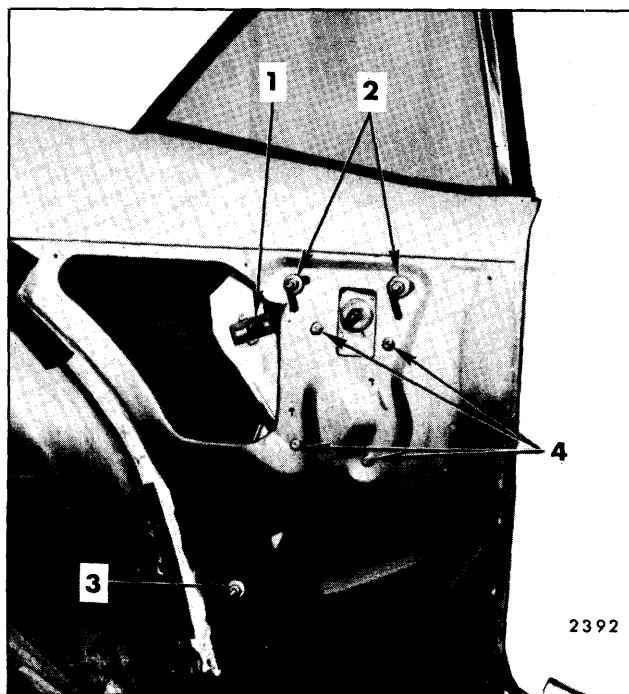

Fig. 7-18—Rear Quarter Window Hardware - "F" Styles
4. Remove window guide upper and lower attaching nuts (Fig. 7-18).
In or out fore or aft adjustment is provided by inner panel slots and adjusting studs of the window guide. Up-travel of the glass is controlled by a stop located on the regulator assembly (Fig. 7-18).